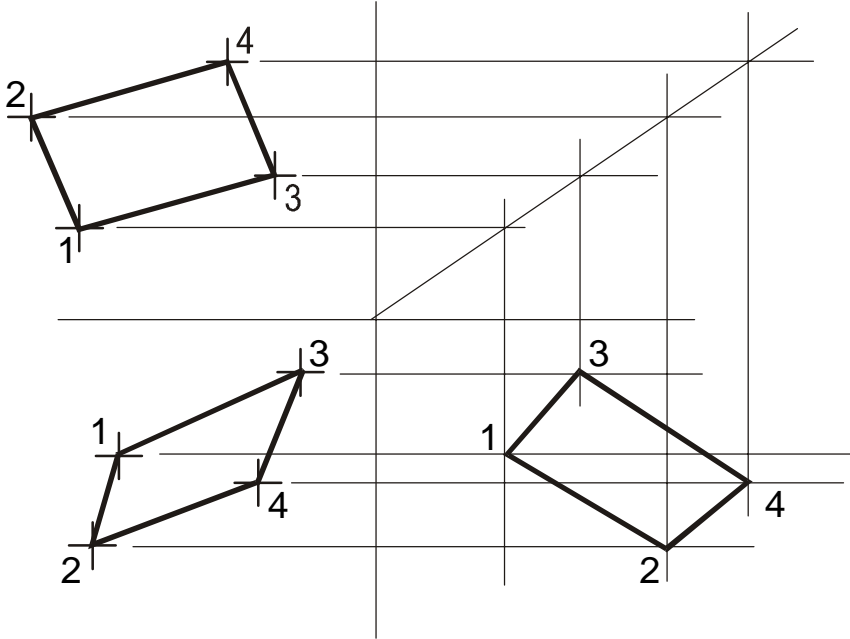

Figure 3-21. Projection of individual points 1, 2, 3, and 4 into the right side view.
- (1) Identify the lines that define the plane 1-2, 2-4, 4-3, and 3-1.
- (2) Project the individual points 1, 2, 3, and 4 into the right side view. See Figure 3-21.